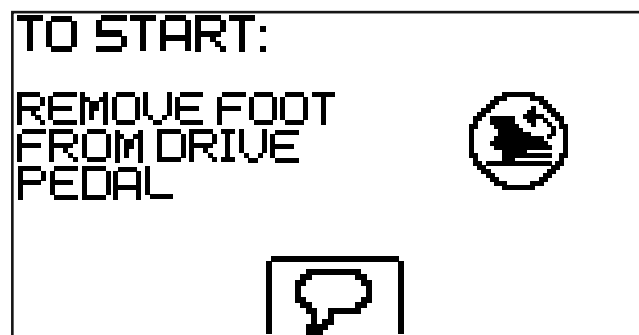

Figure 5-5
5. If your foot is on the forward/reverse drive pedal, remove it. See Figure 5-5.